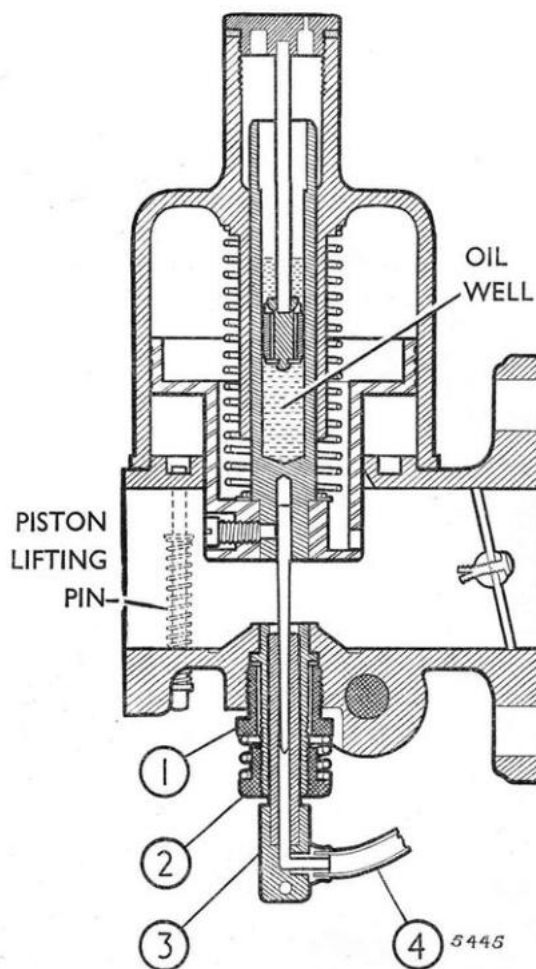
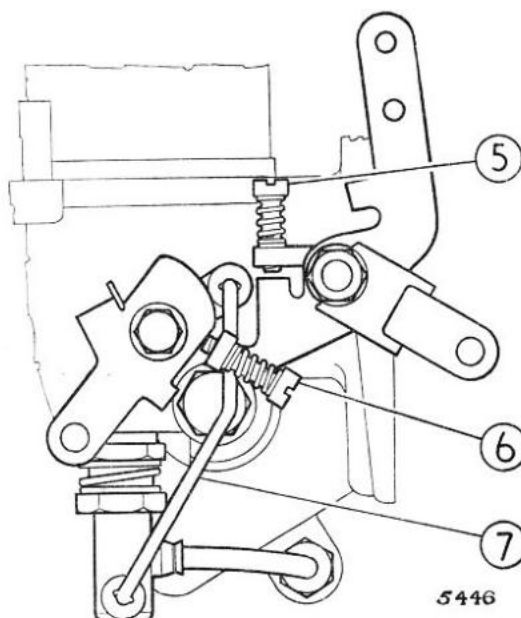

Fig. 1
Fig. 2
Presuming that the needle is of the correct type, tuning is confined to correct idling adjustment, and this is carried out by movement of the idling stop screw (5, Fig. 2) and the jet adjusting nut (2, Fig. 1), but before making these adjustments it is essential that the engine should have attained its normal running temperature.
The stop screw (5, Fig. 2) should be set to give a reasonably brisk idling speed (which can be reduced later, if necessary, after the jet position has been settled), and then the jet position should be so adjusted, vertically by nut (2, Fig. 1) that for this given
position of screw (5, Fig. 2) the **fastest idling speed is obtained consistent with even firing.**
If the return spring on the jet lever is temporarily removed in order to give easier access to jet nut (2, Fig. 1) make sure that the jet head is abutting hard up against the under side of this nut after every adjustment; really good slow running is critical to a sixth of a turn of this nut, or one 'flat' of the hexagon, on some engines.
When the suction piston is lifted by hand (engine not running) it should fall freely and hit the inside 'jet bridge' with a soft metallic click—that is, with the jet adjusting nut (2, Fig. 1) in its topmost position. (There is a small spring-loaded pin under the suction chamber mounting flange which, when pressed upwards, lifts the piston.)
It may be helpful to understand that the complete jet unit, clamped in position by lock screw (1, Fig. 1), is held in a clearance bore that permits a limited amount of radial float prior to being locked. Therefore if this lock screw is slackened away half a turn, and then the needle and piston lowered fully, the jet unit will concentrically locate itself around the needle and can then be locked in that position.
- (a) Disconnect the rod between the jet lever and jet head (7, Fig. 2).
- (c) Slacken off the large jet locking screw (1, Fig. 1) until the jet bearing is just free to rotate by finger pressure.
(4) Refilling oil damper reservoir in piston rod
With the cam-type jet and throttle interconnection, the outer adjusting screw (6, Fig 2) should be about $\frac{1}{16}$ in. (thickness of visiting-card) away from the cam face when the engine is warm and idling on a closed throttle. If the jet adjusting nut is altered in position substantially, then screw (6, Fig. 2) may also need a suitable readjustment.